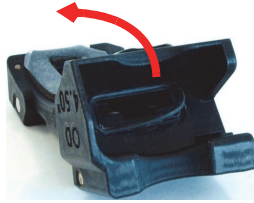

Figure 5-4 Changing the probe's o-ring seal on the wedge
1. Use an appropriate tool such as a small flathead screwdriver to carefully lift and pull off the old o-ring seal without damaging the mounting surface on the wedge (see Figure 5-4 on page 52).